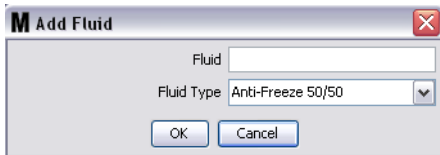

FIG. 108
3. On the Add Fluid screen type in a name for the fluid in the Fluid field (FIG. 108) (40 characters maximum). For ease of identification and reporting, it is recommended that short Fluid Names are used.